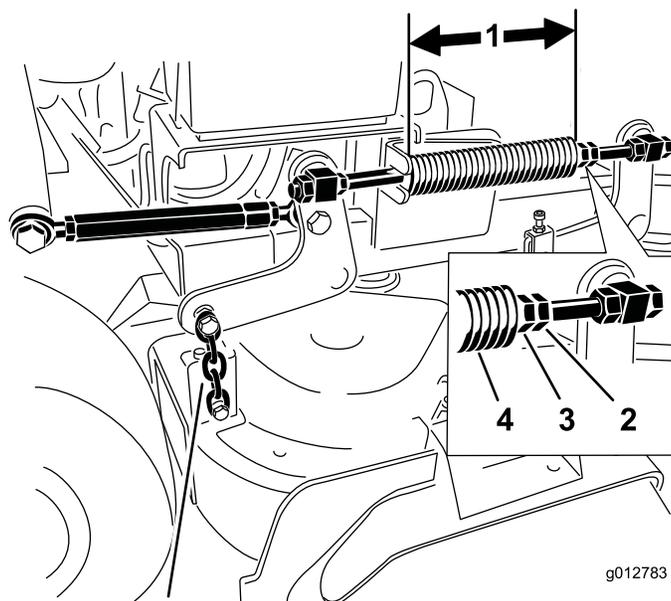

Figure 86
2. Check the length of the compression spring. Nominal length is 11-1/8 inches (28.2 cm) for 36 inch mower decks and 10-1/8 inches (25.7 cm) for 40 inch mower decks (Figure 86).
3. Adjust this distance, by loosening the spring jam nut and turning the nut in front of each spring (Figure 86).
4. Lock the nut into position by tightening the spring jam nut (Figure 86).